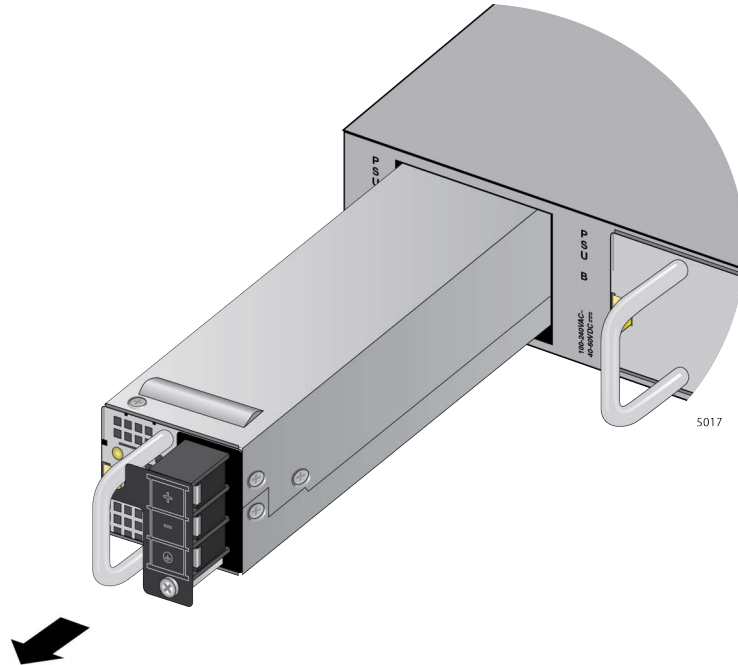

Figure 139. Removing a DC Power Supply
7. Carefully slide the power supply from the switch. Refer to Figure 139 on page 210.